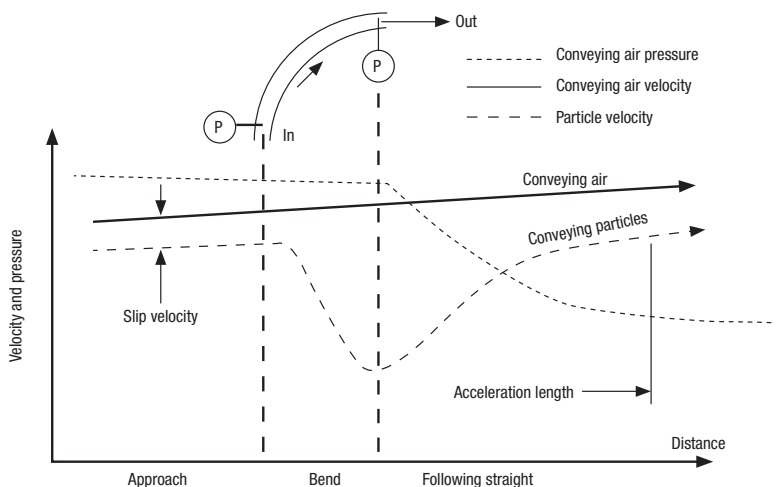

FIGURE 2. The figure shows changes in pressure and velocity as particles flow through a pipe bend
As a consequence of particle impact, particularly against bends, there will be a significant reduction in particle velocity. These particles will then have to be re-accelerated back to their terminal velocity, which will add significantly to the pressure drop — and hence, energy loss — for the conveying system, as seen by Equation (1). It is not only after the feed point into the pipeline that an acceleration length needs to be established. There will be a significant reduction in particle velocity for particles after exiting a bend, and particularly so after short-radius bends. This situation is illustrated in Figure 2 [1].
there will be a small pressure drop, but the major part of the loss in pressure, as a result of the flow through the bend, will be in the acceleration of the particles back to their terminal velocity following the bend. The two pressure gages included in Figure 2, at the bend inlet and outlet, will give a false reading for the actual pressure drop, which results from the flow of material through the bend. In pneumatic conveying situations, most of the pressure drop that can be attributed to the bend occurs